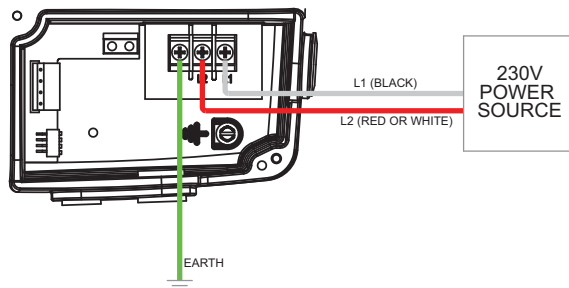

Figure 1: Wiring Diagram without Aux Load
- Make certain the motor is properly wired (refer to Figure 1)